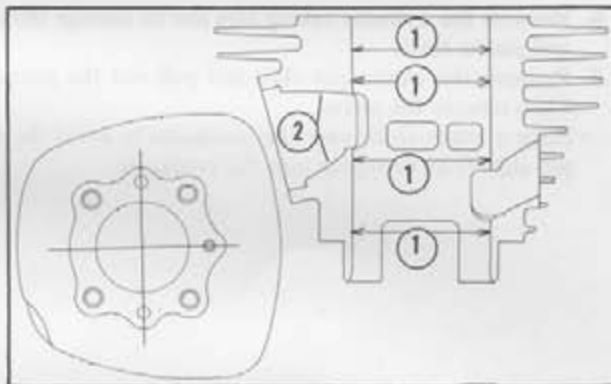

Fig. 4-21 ① Carbon deposit in cylinder exhaust port
- As shown in Fig. 4-21, measure the cylinder ID at four points ① in the longitudinal direction and at two points in the directions X and Y. The maximum dimension is the measured value.